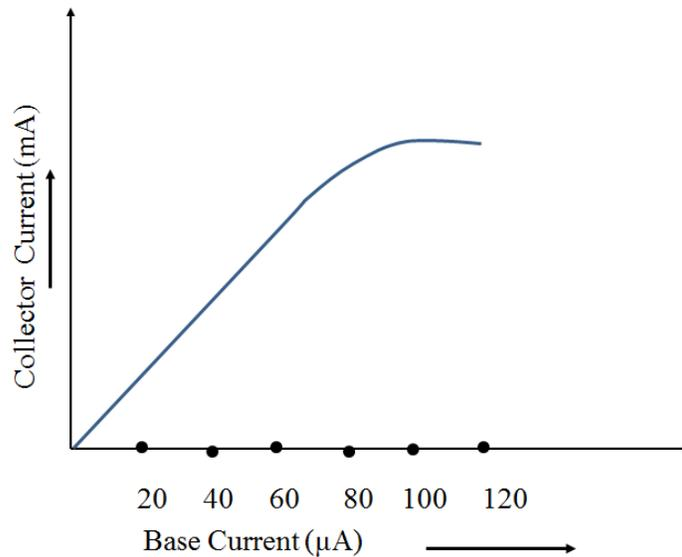

Figure 5. Output characteristics of collector current versus base current
- (v) Plot collector current against base current as shown in figure 5.